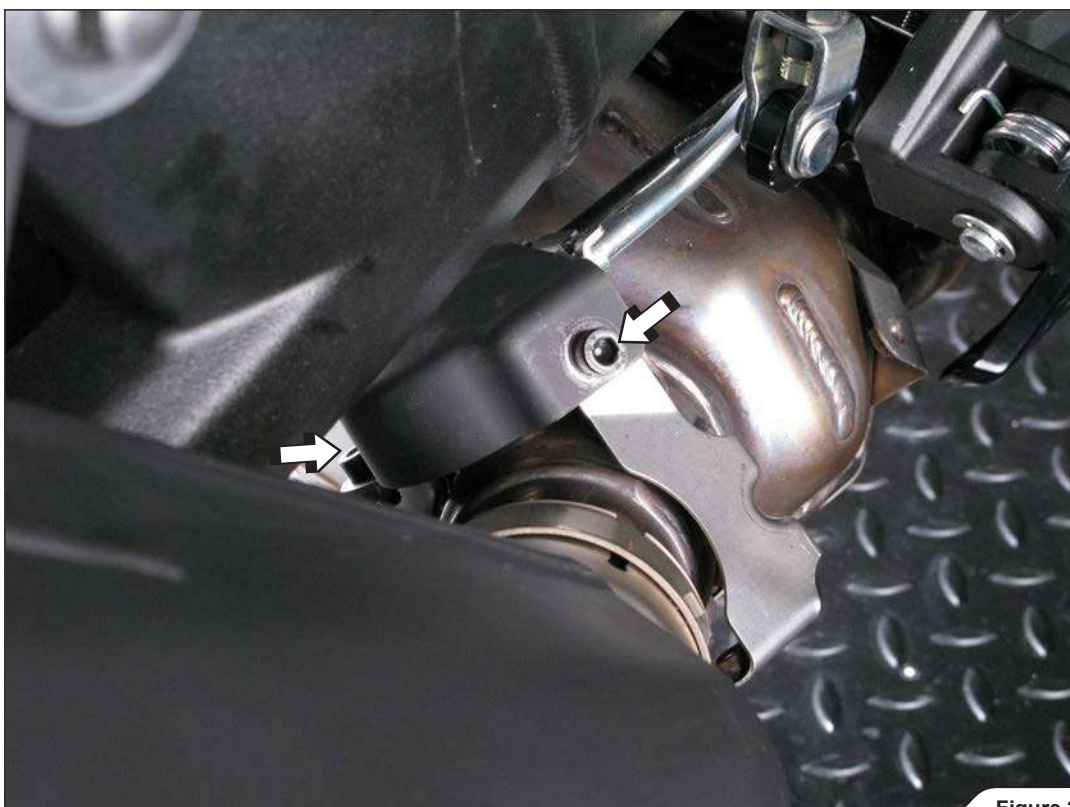

Figure 2
3. For optional link pipe only: unscrew and remove the exhaust valve shield (**Figure 2**).